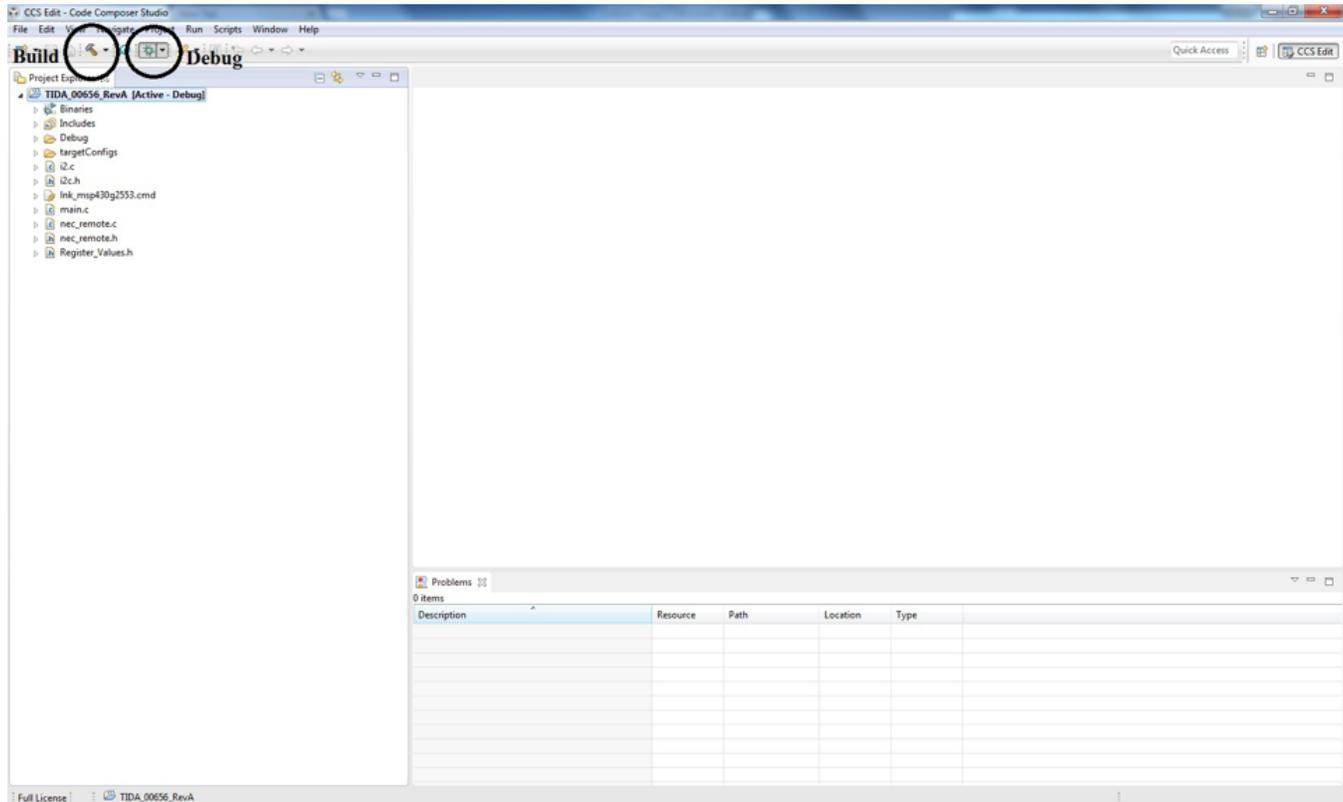

Figure 6. Build and Debug Using Code Composer Studio™ from TI
- Build the project by clicking the *Build* button (hammer icon), which if run successfully, appears as the following Figure 6.
- Click the *Debug* button (bug icon) as the following Figure 6 shows.